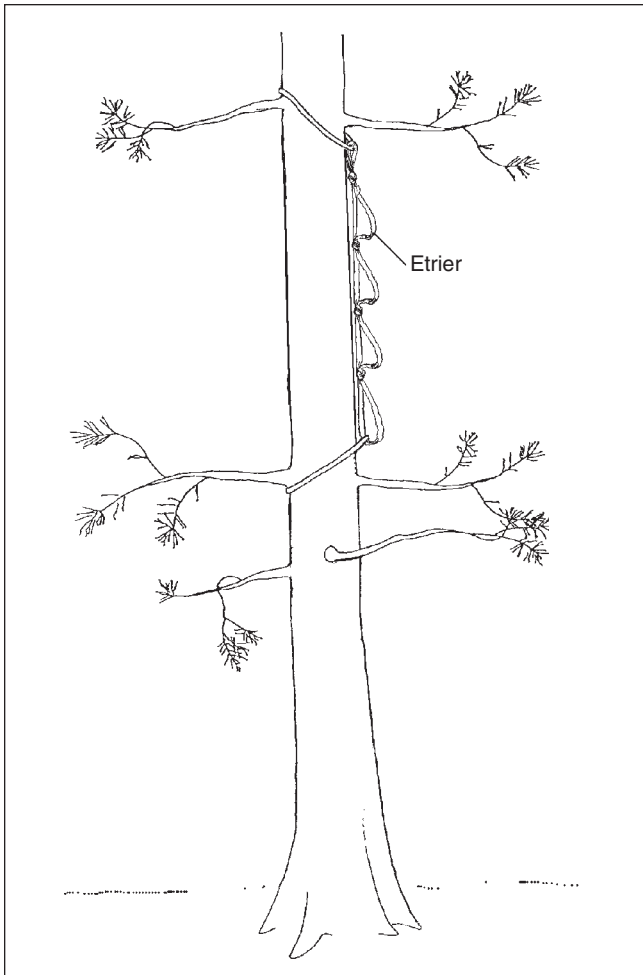

Figure 4j—Using an etrier.
6. When suitable branches are far apart in the live crown and it is difficult to maintain three points of contact, consider using a lanyard around the tree, or suitable branch, or placing tree steps (see figure 5m) or etriers (see figure 4j) to aid in climbing. **NOTE:** When using etriers, attach them to the tree above a branch whorl with rope or webbing and attach the bottom of the etrier to the tree bole for secure placement. Always use a lanyard when using tree steps or etriers for support.